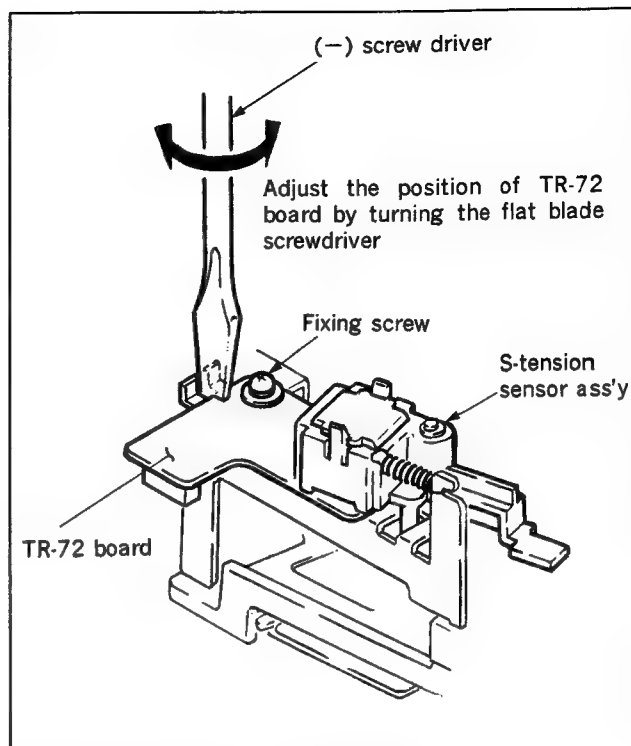

Fig. 5-6-2 TR-72 Board Adjustment
- (1) In step (3), if the voltage of TP802 does not satisfy the specification, adjust it as follows. Loosen a screw of the TR-72 board on the S-tension Sensor Ass'y, insert a flat blade screwdriver into the slot and twist the board right or left until the voltage is satisfied. (Refer to Fig. 5-6-2). Then tighten the screw.
- (2) If the torque does not satisfy the specification in step (5), turn RV805 on the SST-2 board so that the torque is within the specification.